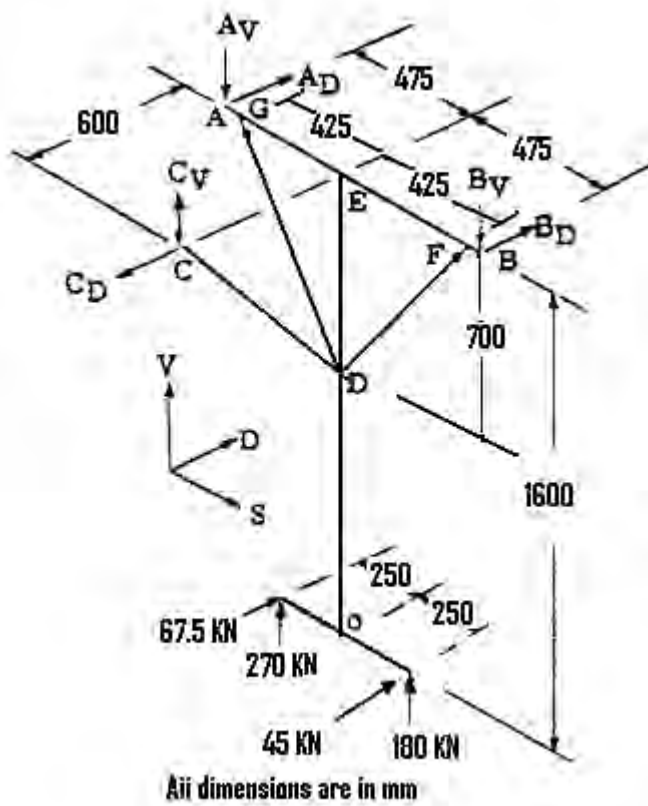

Figure 2:
7. Find the forces (C_D , C_V , C_D , B_V , A_V , B_D , A_D) in each member of main landing gear shown in Figure 2. Assume additional data if necessary. [16]